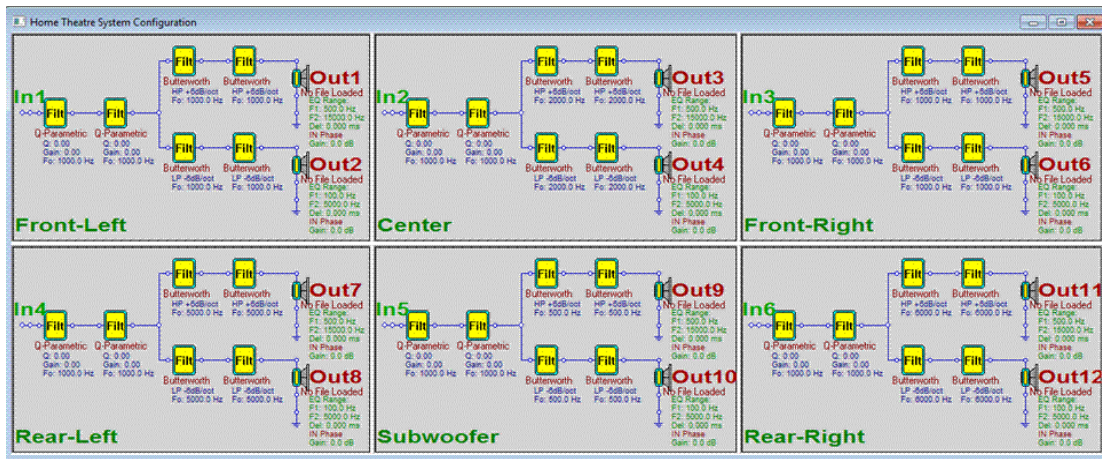

Figure 67. Home Theater 7 option.
- Home Theater Option 7:** All channels are 2-ways. This allows the user to set up a home theater system with 2-ways front and surround speakers and dual subwoofer with different equalization applied to each subwoofer. Figure 67.